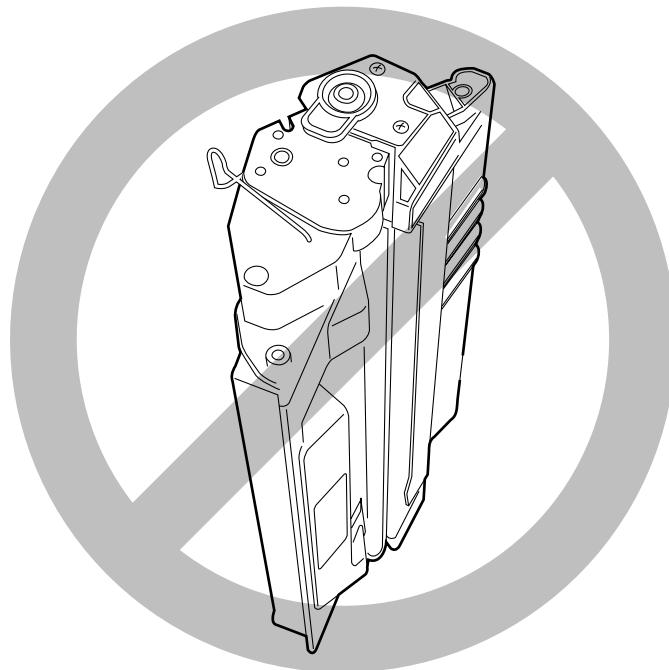

Figure 1-2
b) As shown in Figure 1-2, do not hold the cartridge vertically or upside down. Also, do not wave it about.